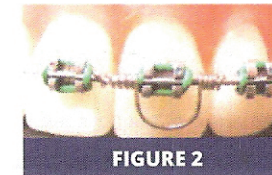

FIGURE 2
2. Select the GTS spring that will best fit the tooth being torqued. Usually, the short spring is used for maxillary laterals and lower anteriors. The long spring is for maxillary centrals and cuspids. Slide the GTS spring on the wire while making sure the curved portion of the spring touches the tooth crown gingivally if you want lingual root torque or incisally if you want labial root torque. If the full torque is required, place the spring in the same plane as the wire (fig 2). If less torque is required, place the spring at 45 degrees to the wire (fig 7).